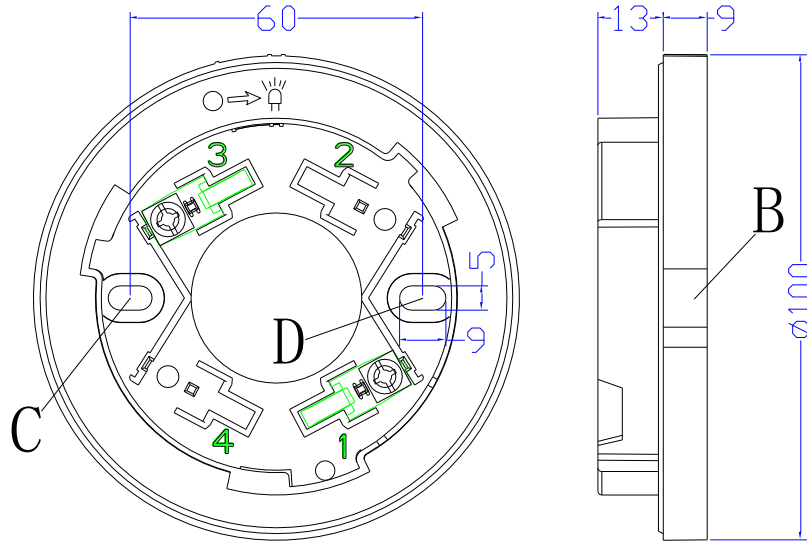

Fig.5
A self-contained complete base is necessary during the installation of a detector. As shown in Fig.5, the model, the external dimensions, the mounting hole diameter and the mounting hole spacing of the base are DZ-910, 100mm×22mm (diameter×thickness), 5mm and 56mm ~ 64mm respectively.
2. Use two M4 screws to fix the matched mounting base on the designated position via the mounting holes C and D shown in Fig.5, as instructed in the construction drawing and make sure the matched mounting base has been firmly installed.
5. Place the indicator at position A of the detector (see Fig.1) and position B of the base (see Fig.5), align them with each other, insert the detector into the base and turn the detector clockwise until it is firmly locked.